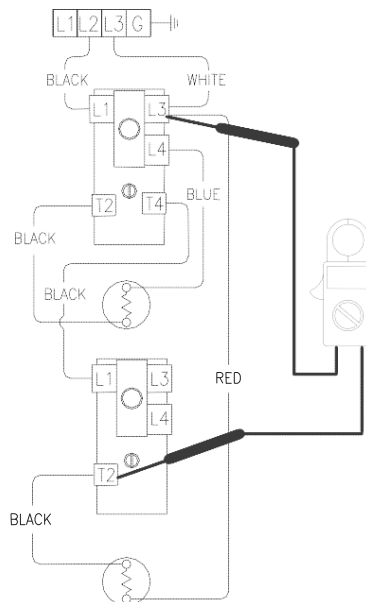

Figure 32
7. Check voltage across terminal L3 of upper thermostat & T2 of lower Thermostat. (see Figure 32).
4. See Figure 32 above. Check across terminal L3 of upper thermostat & T2 of lower thermostat.